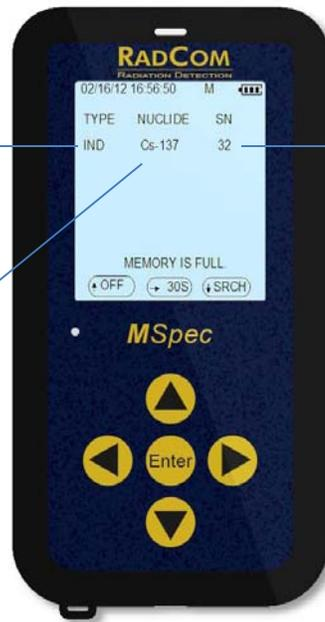

Figure 1
2. The MSpec should detect the radiation with an increasing display of measured units and varying audio tone before it automatically switches to the **Identified Result** (*Figure 1*) screen showing the sample detected. Also the unit will vibrate when the alarm threshold is exceeded (Alarm threshold can be set through PC software).